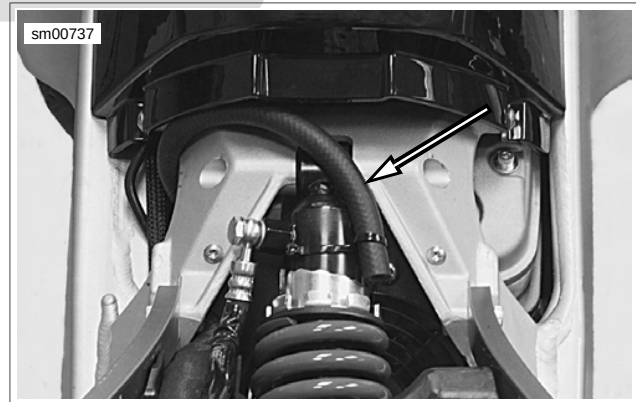
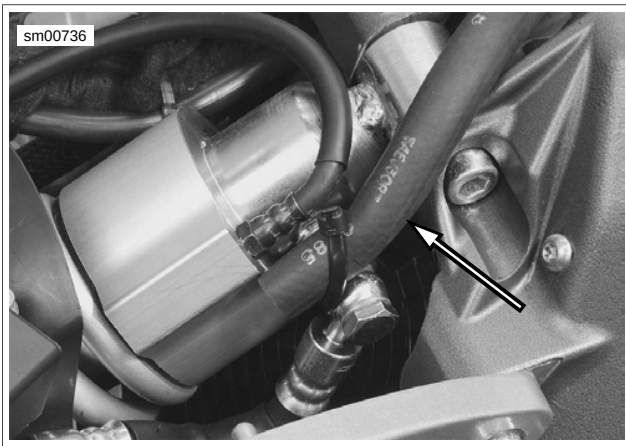

Figure 3-32. Transmission Vent Line: Lightning
Figure 3-33. Transmission Vent Line: Ulysses
- b. See Figure 3-32 (Lightning) or Figure 3-33 (Ulysses). On Lightning and Ulysses models, route transmission vent line up through the left side of frame exiting under the left rear side of the intake cover assembly. Install cable strap to secure transmission vent line in place. Inspect vent line to verify space between vent line and rear exhaust.